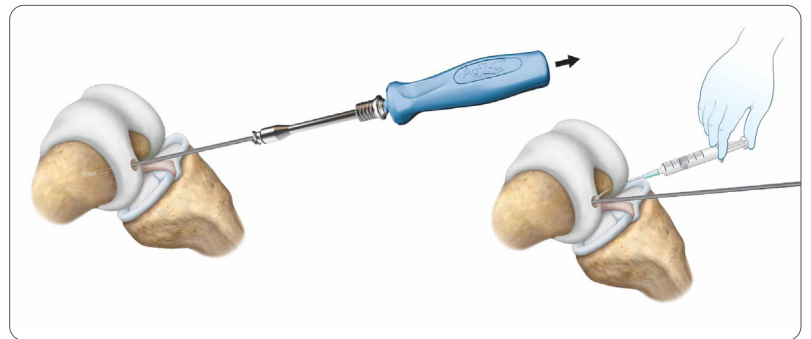

Figure 8
8. Remove the Reamer and rinse the hole with saline to wash out any debris, the K-wire remains in place (**Figure 8**).